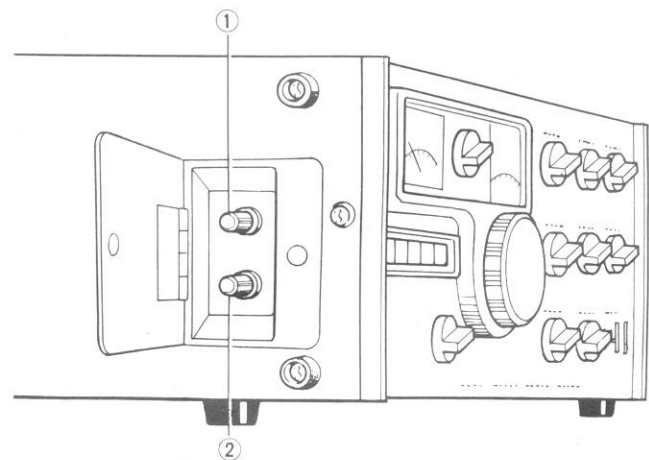

FIGURE 6, TS-900 Side Panel Controls
3.2 SIDE PANEL CONTROLS (See Figure 6)
MIC GAIN CONTROL (1 on Figure 6)
VOX GAIN CONTROL (2 on Figure 6)